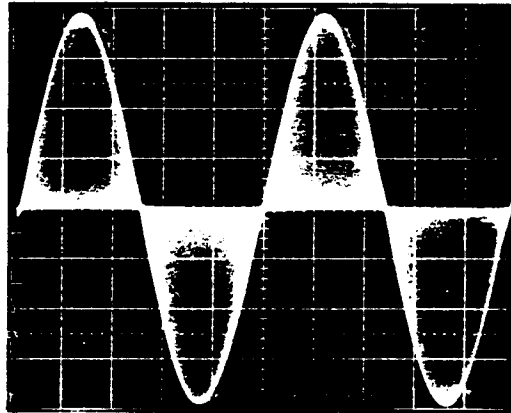

FIG: IV-1: CORRECT L-R LEVEL
- (1) Connect a triggered-sweep oscilloscope of at least 5 MHz vertical bandwidth to the BROADBAND output jack of the station modulation monitor. Apply a 500 Hz sinewave to the left channel only at a level sufficient to cause some gain reduction. Trigger the oscilloscope from the 500 Hz sinewave. Turn the PILOT ON/OFF switch on the Optimod to OFF. Adjust the L-R GAIN control on the Optimod for a maximally flat baseline, as shown in figure IV-1.
In order to ascertain whether the fault lies within the Optimod or in external circuitry, the composite output of the Optimod may be directly observed with a scope and compared with figures IV-1 and IV-2. It may then be compared with the baseband output of the station modulation monitor to see if noticeable deterioration occurs after the Optimod output.